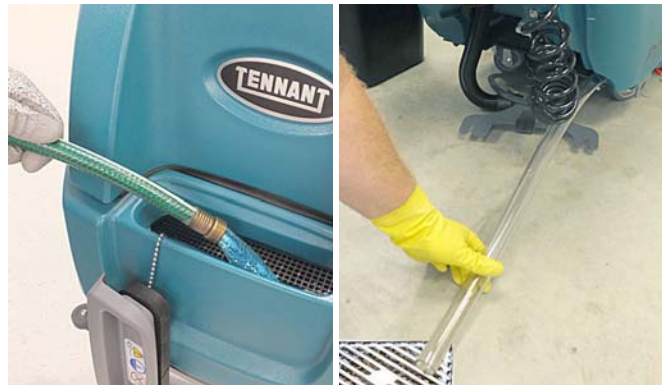

FIG. 92
3. Rinse solution tank with clean water (Figure 92).